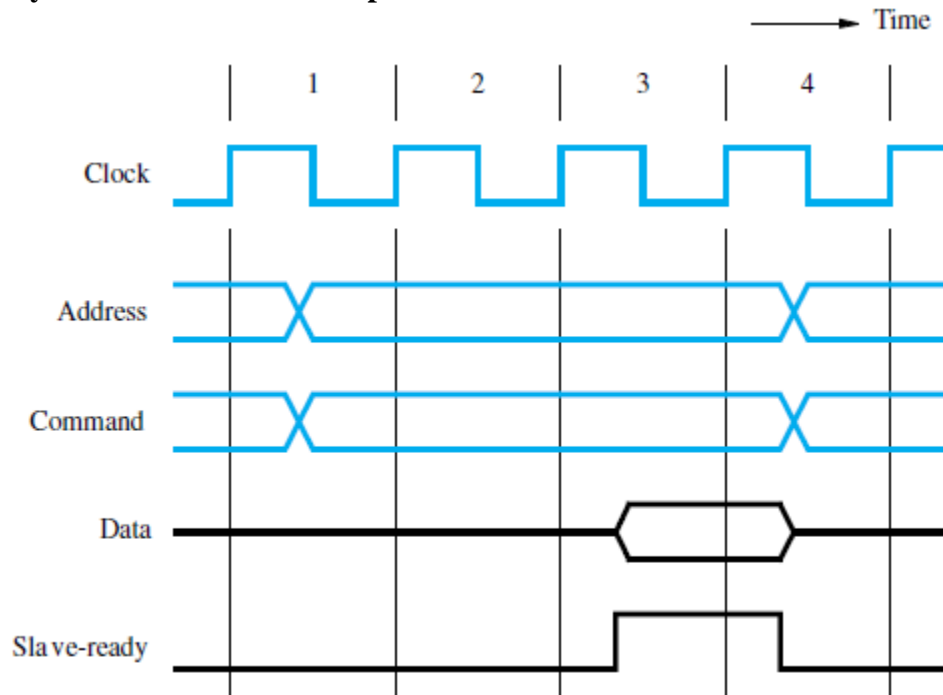

Figure 7.5 An input transfer using multiple clock cycles.
- The slave receives & decodes address/command information (Figure 7.5).